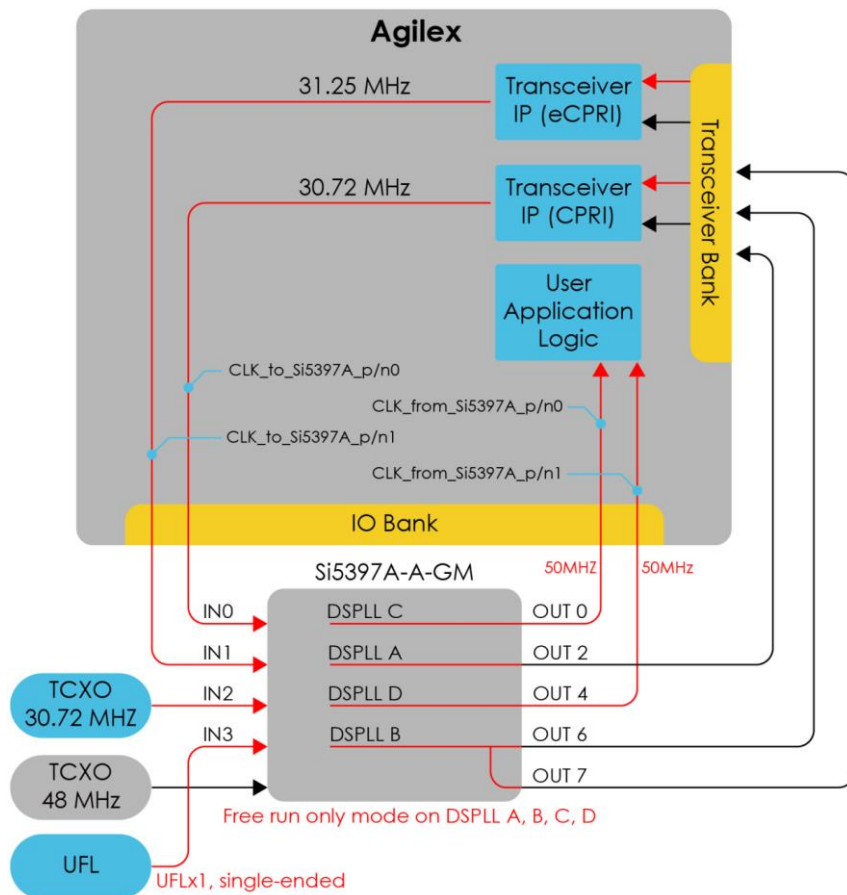

Figure 5-4 Block diagram of the iIO_CLK_0/1 (CLK_from_SI5397A[0]/[1])
Figure 5-4 shows the basic application status of these clocks. The output frequency of these two clocks are determined by several input clock sources pin (IN0~IN3 and XA pin) of Si5387A.
2. After the installation, select Si5397, and configure the input frequency and output frequency as shown in **Figure 5-4**.